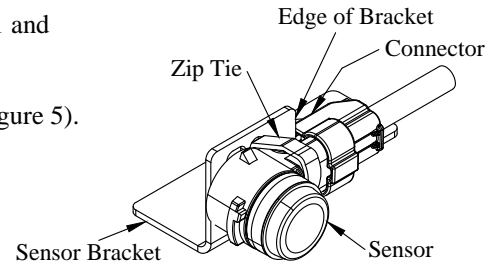
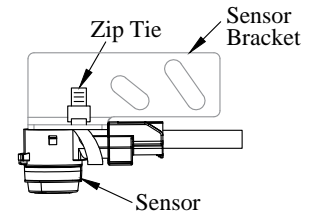

Figure 6: Orientation of sensor in bracket.
Figure 7: Top view of sensor in bracket.
- 9. Position** sensors into brackets and fix in position using zip ties. Be sure connector hangs over edge of bracket, allowing the back of the sensor to be flat against the bracket (Figure 6 and Figure 7).